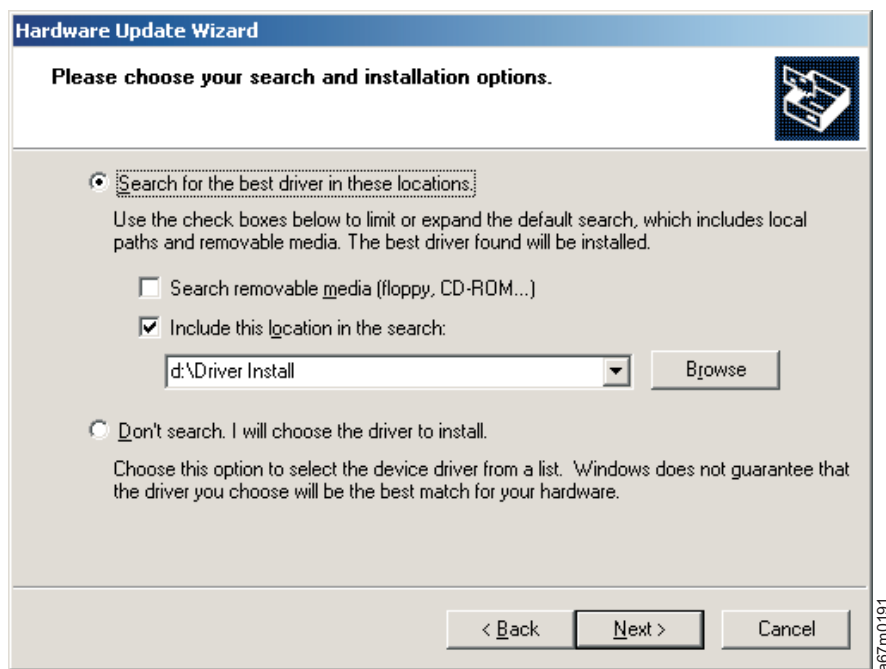

Figure 39. Search and Installation Options
2. The Wizard will prompt you to specify your search and installation options. Select the **Search for the best driver in these locations** radio button. Deselect the **Search removable media (floppy, CD-ROM...)** check box and select the **Include this location in the search** check box. Type the name of the directory into which you unzipped the driver files. See Figure 39.